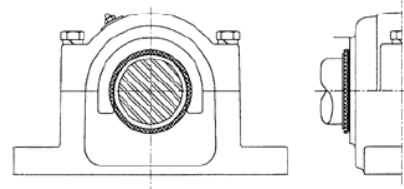

Figure 4c
- Move the installation tool(s) to the top position to facilitate the assembly of the housing cap to the base (Figure 4c).